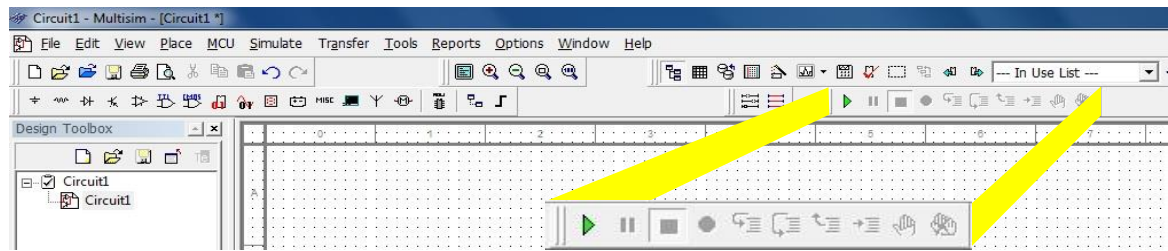

Figure 4.17: Simulation Tab
- e. **Simulating the Circuit:** Locate simulation toolbar on main window and click on green triangle button. To stop simulation click on red square button as shown in figure 4.17.